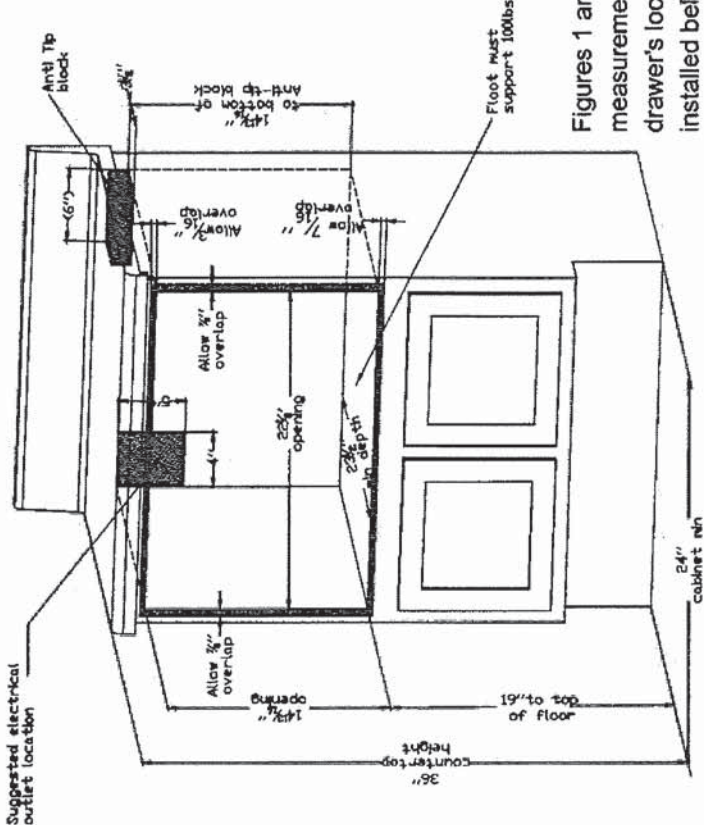
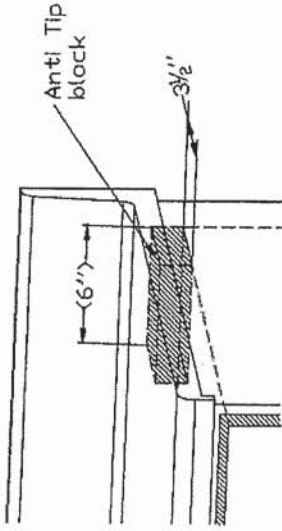

Figure 1
Figure 3
For SAFETY CONSIDERATIONS do not install drawer in any combustible cabinetry, which is not in accord with the stated clearances and dimensions on pages 2 and 3. See Figure 1.
- *Dimensions that are shown in Figure 1 must be used. Given dimensions provide minimum clearance. Locate electrical outlet in the shaded area in the upper left-hand corner of the cutout. See Figure 3.
Figures 1 and 2 contain many Microwave Drawer measurements for reference when planning the drawer's location . This Microwave Drawer can be installed below any electric or gas wall oven.
To reduce the risk of tipping of the drawer, the Anti-Tip block must be properly installed located 14 13/16-inches above the floor on which the Microwave Drawer will sit. The 6-inch Anti-Tip block must be provided by the installer. See Figures 1 and 3. The Anti-Tip block prevents serious injury that might result from spilled hot liquids.